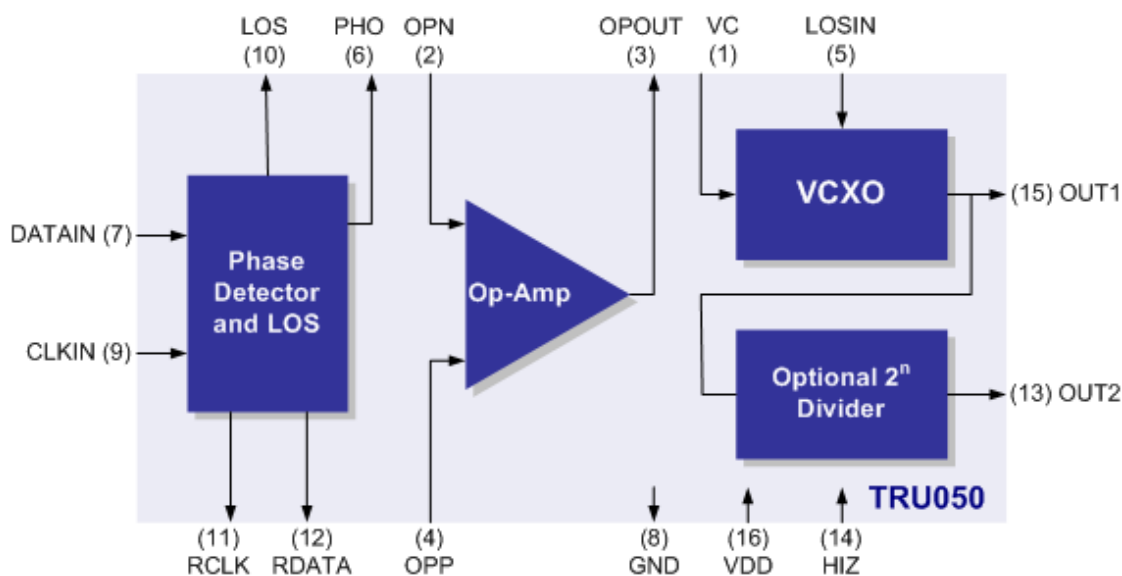

Figure 1. TRU050 Block Diagram
2. Figure 1 defines these parameters. Figure 2 illustrates the equivalent five-gate TTL load and operating conditions under which these parameters are tested and specified. Loads greater than 15 pF will adversely effect rise/fall time and duty cycle.